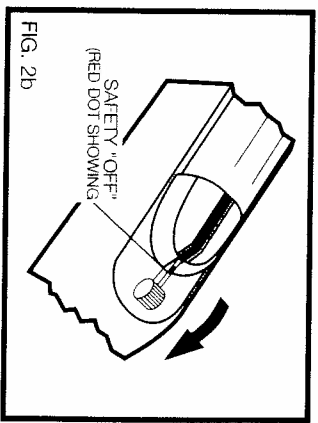

FIG. 2b
- STEP 6. TAKE "OFF" SAFETY - RED DOT SHOWING (See Fig. 2b)
When you are certain that the target, backstop and surrounding area are safe, move the safety fully to the rear-down position - RED DOT SHOWING. (See Fig. 2b). Your gun is ready to shoot. Pulling the trigger now will fire a pellet from the gun. In this condition, it should be handled with extreme care.